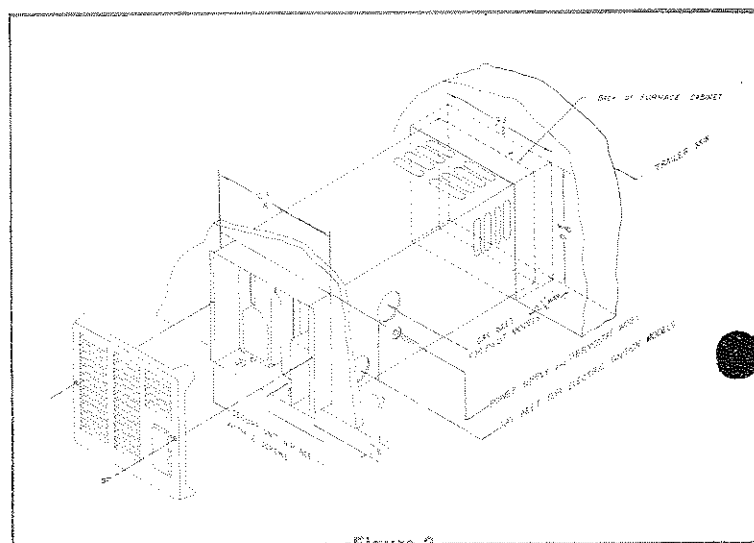
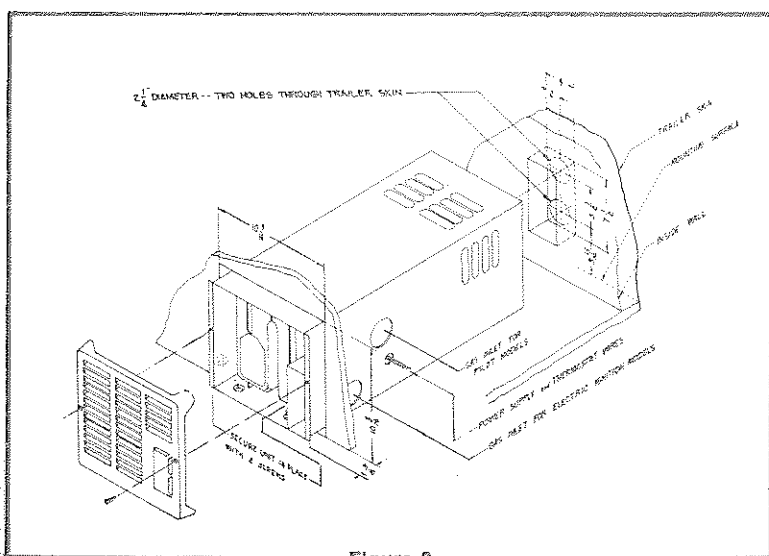
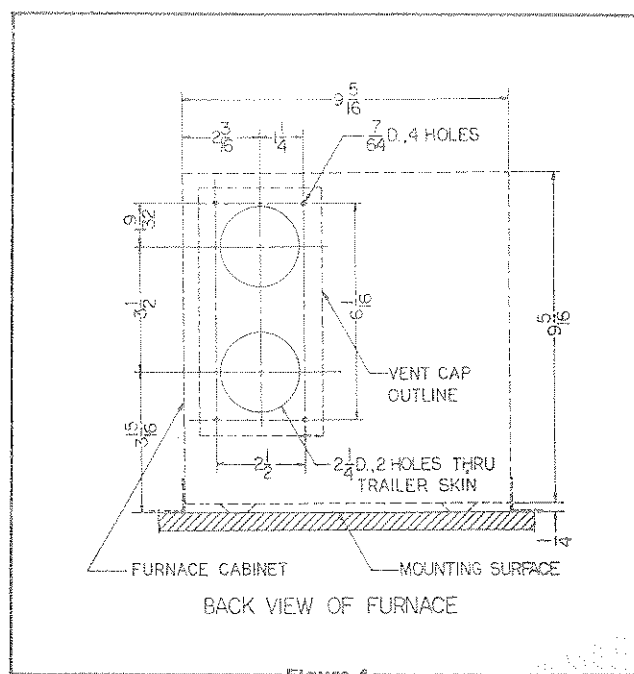
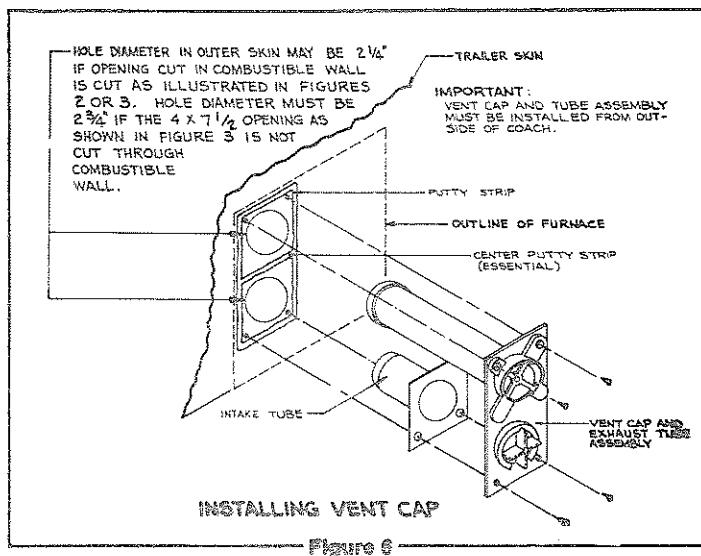

Figure 2
Figure 3
Figure 4
Figure 6
**NOTE:** Side and top clearances of furnace cabinet may be 0" for through the wall installations up to a maximum of 2 1/2" wall thickness. (See Figure 2.)
4. Cut, or frame, an opening in the coach cabinetry 10 9/16" x 10 3/16", as shown in Figure 2 or Figure 3.
5. Slide the front of the furnace through the opening and extend it beyond the coach cabinetry 1 3/8", as shown in Figure 2 or Figure 3.
8. If X - Y is less than 21", then an opening 9 5/8" x 9 3/8" must be cut through the inner wall only. **DO NOT CUT THROUGH COACH SKIN.** (See Figure 2.) Next, locate the center line of the exhaust and intake tube. Cut two 2 1/4" diameter holes through the outer skin as shown in Figure 4.
**NOTE:** Whenever the furnace cabinet is installed through the outside wall, the return air louvers on the furnace cabinet must not be blocked. The maximum projection of the furnace cabinet into the wall is 2 1/2". (See Figure 2.)
A. Cut a 4" x 7 1/2" opening through combustible wall as shown in Figure 3. **DO NOT CUT THROUGH TRAILER SKIN.** Next, locate the center line of the exhaust and intake tube. Cut two 2 1/4" diameter holes through trailer skin. (See Figure 4.)
B. If you do not wish to cut the 4" x 7 1/2" opening, locate the center line of the exhaust and intake tube as shown in Figure 4. Next, cut two 2 3/4" diameter holes through trailer skin and also the combustible wall of the trailer as illustrated in Figure 6. Care must be taken when locating the center line of the exhaust and intake tube as well as when cutting the holes in order to assure a 3/8" clearance around the exhaust and intake tube to combustible materials.
11. Secure furnace to the floor using the two holes provided in the front area of the furnace cabinet. (See Figure 2 or Figure 3.)
1. Caulk around vent cap as shown in Figure 6.